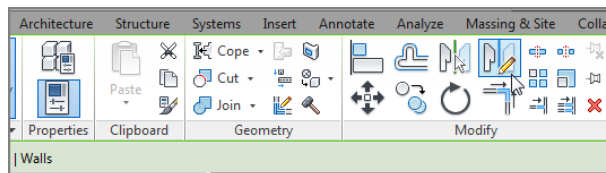

FIGURE 1.22: The Ribbon adds the appropriate commands.
2. When the walls are selected, the Modify | Walls tab appears. On the Modify panel, click the Mirror – Draw Axis button, as shown in Figure 1.22.